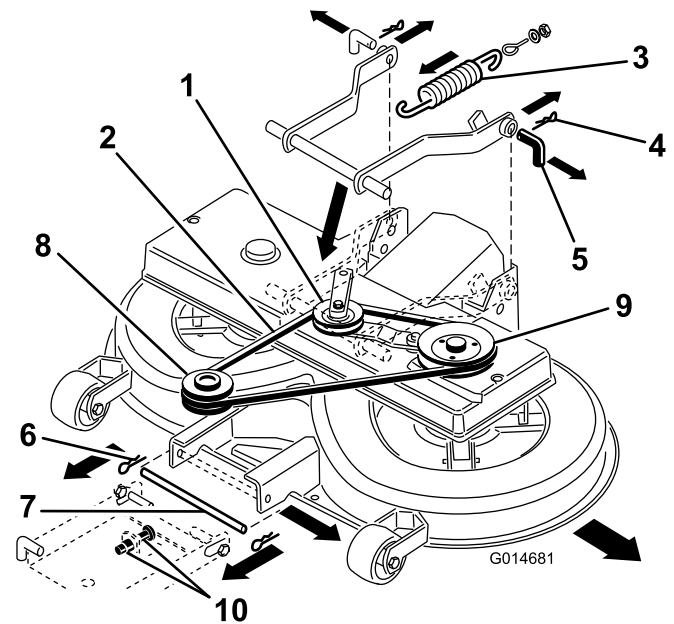

Figure 42
- Pull the idler arm assembly in and remove the V-belt from the pulley (Figure 42).
- Disconnect the spring from the engagement lever (Figure 42).
- Remove the hairpin clips from the 2 rear pins and remove the pins (Figure 42).
- Remove the hairpin clip from the front pin and remove the pin (Figure 42).
- Remove the V-belt from the engine pulley (Figure 42).
7. Move the lower pin of the front adjustment suspension into the bottom position of the slotted holes by adjusting the 2 nuts (M12) on the front suspension (Figure 42).